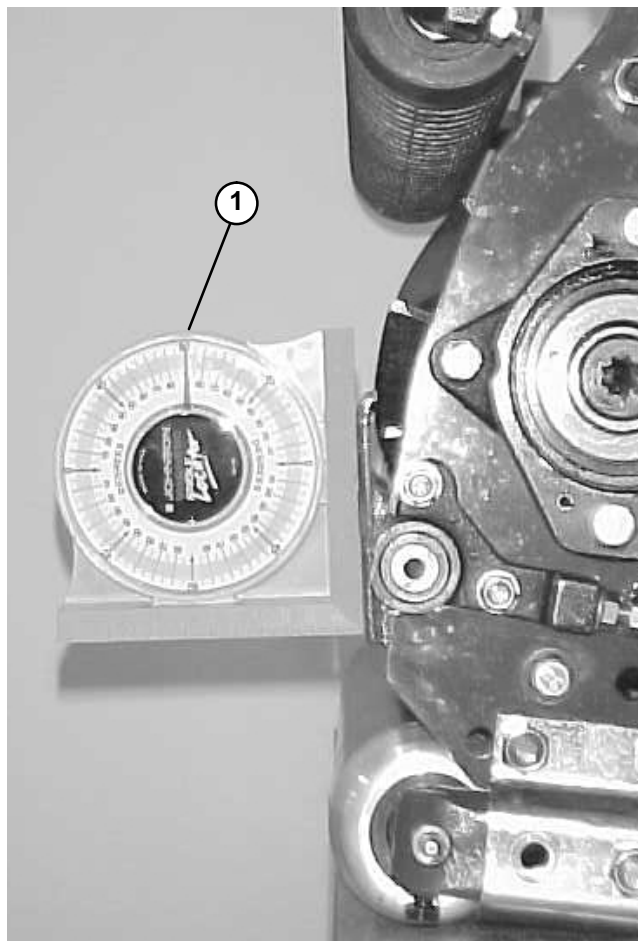

Figure 18
2. Place an angle indicator, Toro part no. 99-3503, on the bedknife and record the bedknife angle (Fig. 18).